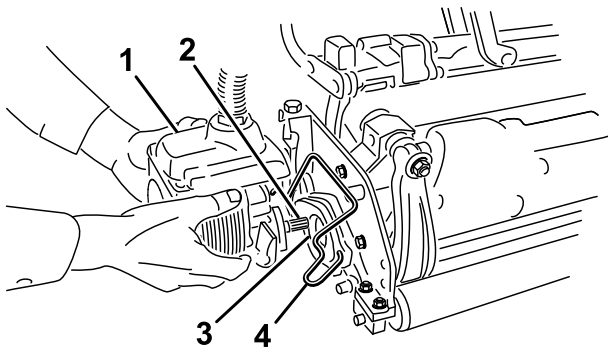

Figure 38
6. Coat the spline shaft of the cutting unit motor with clean grease (Figure 38).
7. Insert the motor into the left side of the cutting unit (as viewed from the operator's position) and pull the motor retaining bar on the cutting unit toward the motor until you hear an audible “click” from both sides of the motor (Figure 38).